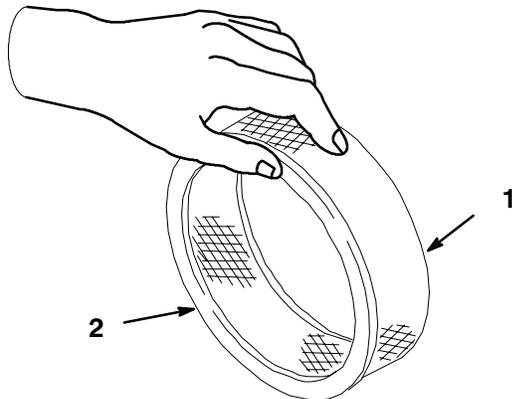

Figure 19
6. Lightly tap the element on a flat surface to remove dust and dirt (Fig. 19).